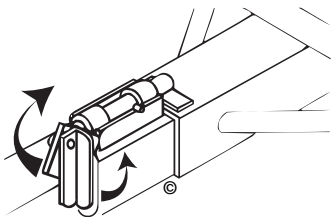

Figure 8
- ❑ If you have a tow dolly with tilt platform loading ramps (Figure 8), tilt the wheel platform back for loading. Swing the bottom of the locking latch toward the coupler far enough to allow locking pin handle upward then pull locking pin towards the coupler as far as it will go. Wheel platform will tilt back to allow loading.
- ❑ If you have a tow dolly with tilt platform loading ramps (Figure 8), slide platform-locking pin back into lock position.
- If you have a tow dolly with tilt platform loading ramps (Figure 8), swing the locking pin handle upward then toward the coupler. This will allow the platform to tilt as you drive off the tow dolly.